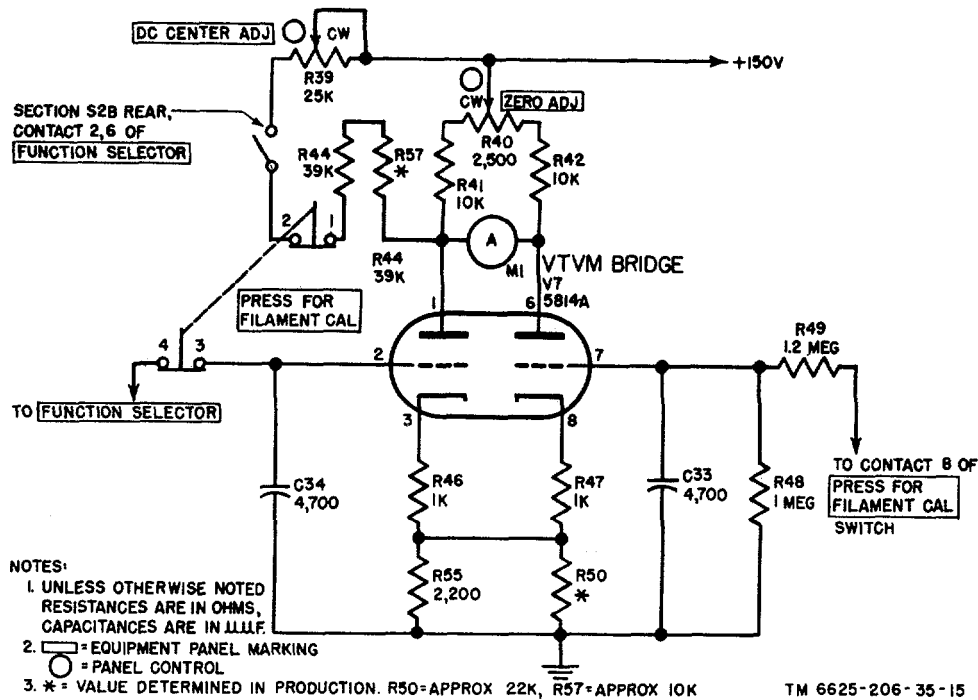

Figure 13. Vtvm bridge V7.
operates in the same manner as the RF level detector described in paragraph 7. The voltage across R31 is applied to the vtvm bridge when the FUNCTION SELECTOR is in the INT DISCR BAL position. The magnitude of this voltage is indicated on meter M1 (fig. 13) and is used to check the discriminator driver stage response at the three test frequencies.
13. Vtvm Bridge (fig. 13)
b. With the PRESS FOR FILAMENT CAL pushbutton pressed in, contacts 1 and 2 of S4 are opened. This removes meter M1 from the DC CENTER ADJ and DISCR TEST circuits. Contacts 3 and 5 connect the input grid, pin 2, of V7 to ground through resistor R53 to prevent any voltage from energizing this grid. Contacts 6 and 8 of S4 connect the 1.5-volt filament supply to the grid of the second section of V7, pin 7, through voltage divider resistors R48 and R49 (fig. 13). The application of this voltage causes meter M1 to indicate as described in paragraph 13c.